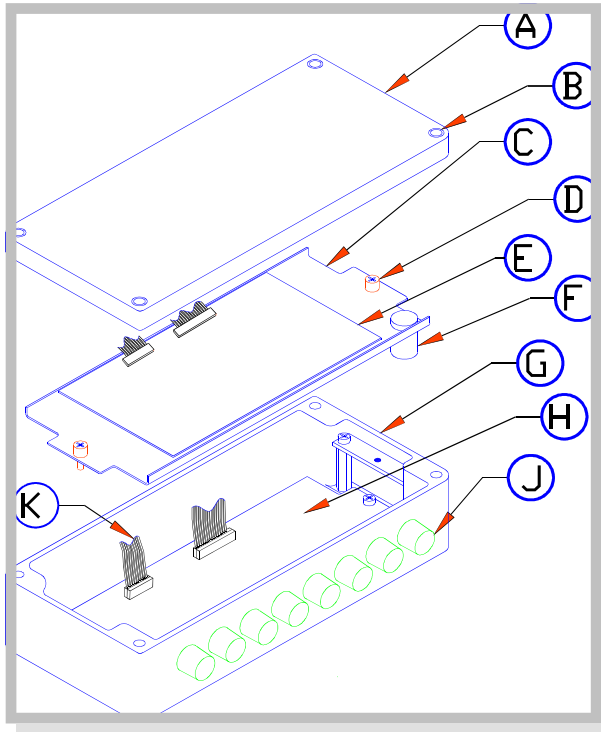
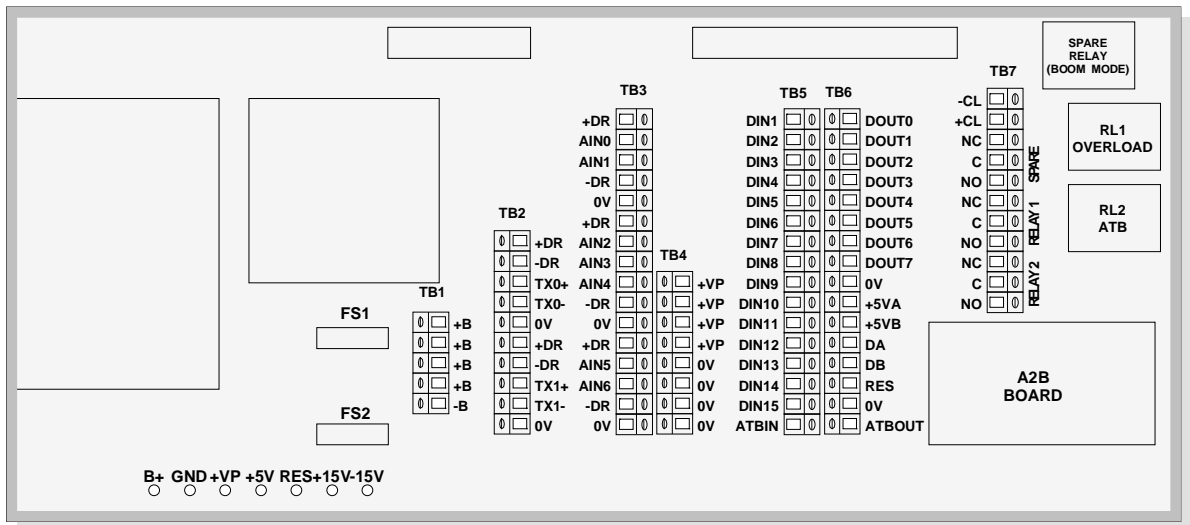

FIGURE 4.1 COMPUTER UNIT COMPONENTS
FIGURE 4.2 COMPUTER BOX AND LAYOUT OF THE TERMINATION BOARD
The **Computer Unit** contains two major assemblies: the **Computer Board (E)**, and the **Termination Board (H)**, shown in Figure 4.1. These boards are in an aluminum box (G), usually located on the rear wall of the cab. On some crane models, they are outside of the cab. The **Computer Board**, containing the microprocessor and its related components, is held in place by screws (D), located on each end of the Computer Board Mounting Plate (C). The **Computer Board** is connected to the **Termination Board** via two ribbon cables (K) that carry signals to and from the Termination Board. All of the cables from the various sensors and the Display Console connect to the Termination Board via the connectors (J) in the wall of the box. The key switch (F) controls three wires that connect the Computer Board to the Termination Board.
1. Refer to Figure 4.1. To access the Computer Board, remove the four screws (B) that secure the cover (A) to the Computer Box. Carefully remove the lid from the Computer Box. Set the lid and the four screws aside.
2. To access the Termination Board (H), remove the screws (D) located at each end of the Computer Board Mounting Plate. Swing the plate up and out of the way.
4. Figure 4.2 shows the Computer Box and the layout of the Termination Board.
4. Disconnect the following three wires that connect the key switch on the Computer Board Mounting Plate to the Termination Board (see Figure 4.2).